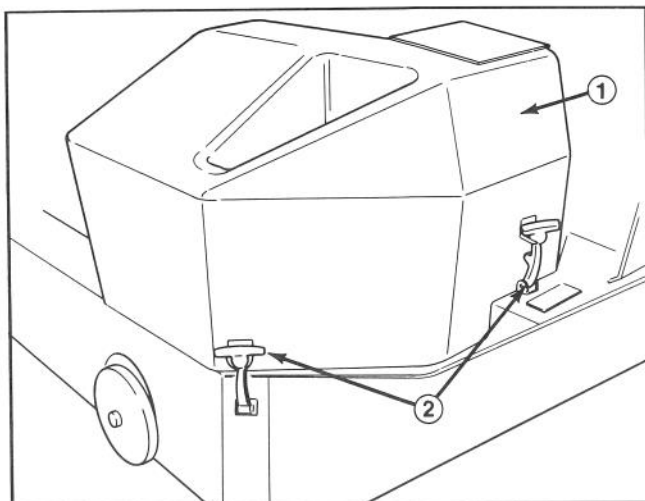

Figure 40
- A. Unlatch and remove clutch cover (Fig. 40).